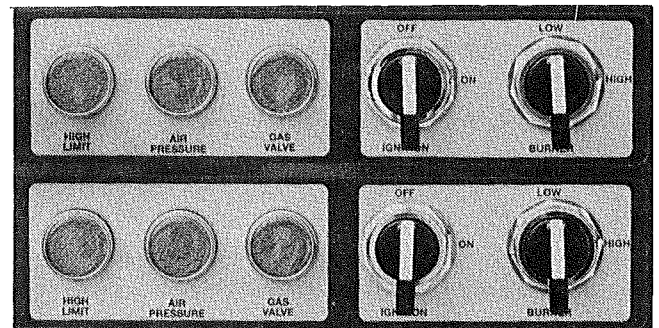

Figure 46
When ignition occurs and a flame is present, the ignition board flame monitoring system will continue to operate but the spark will shut off. If there is a flame failure, the ignition board will "lock out" (after a (5) second trial for ignition) closing the gas solenoid valves. The gas valve indicator light on the control panel will be out. Turn the ignition switch to OFF, then to ON for another "trial for ignition." See Figure 46.